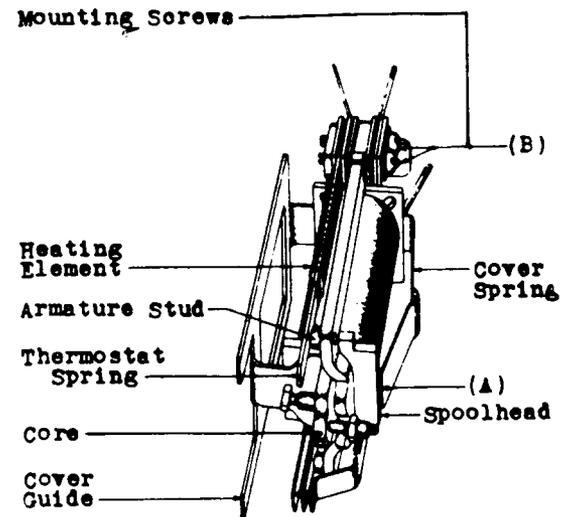

Fig. 1
- 2.03 Cover Spring Pressure - Fig. 1(A) - The cover spring shall have sufficient pressure against the cover to hold the cover securely in place. The cover spring shall bear on the front spoolhead when the cover is off. Gauge by feel.
- 2.05 Tightness of Assembly - Fig. 1 (B) - All springs in a given assembly shall be held in their relative positions to one another and to the relay core by being securely fastened to the relay core at their bases. If it is found necessary to measure the tightness of assembly, such tightness shall be considered as satisfactory if the springs in a given assembly do not move in their mounting when a pressure of 680 grams (24 ounces) is applied in a vertical direction at the contact end of all springs in the same assembly taken together. Gauge by feel.